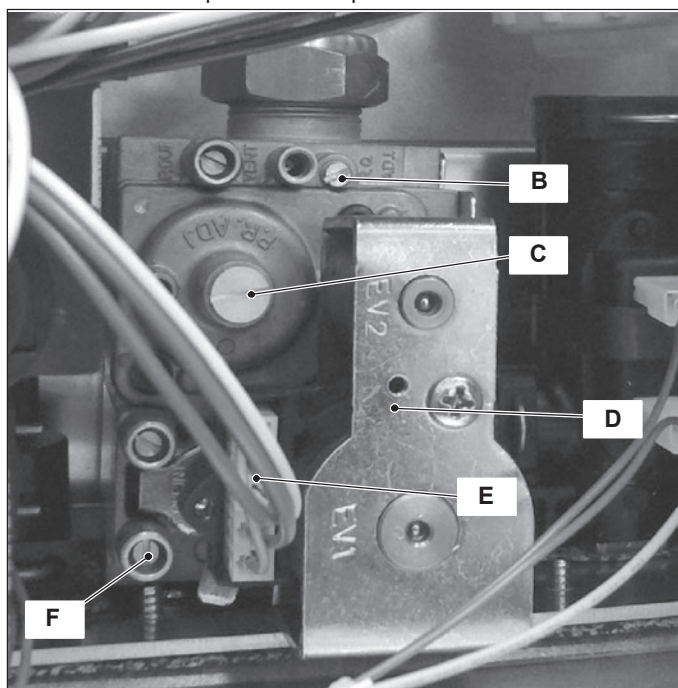
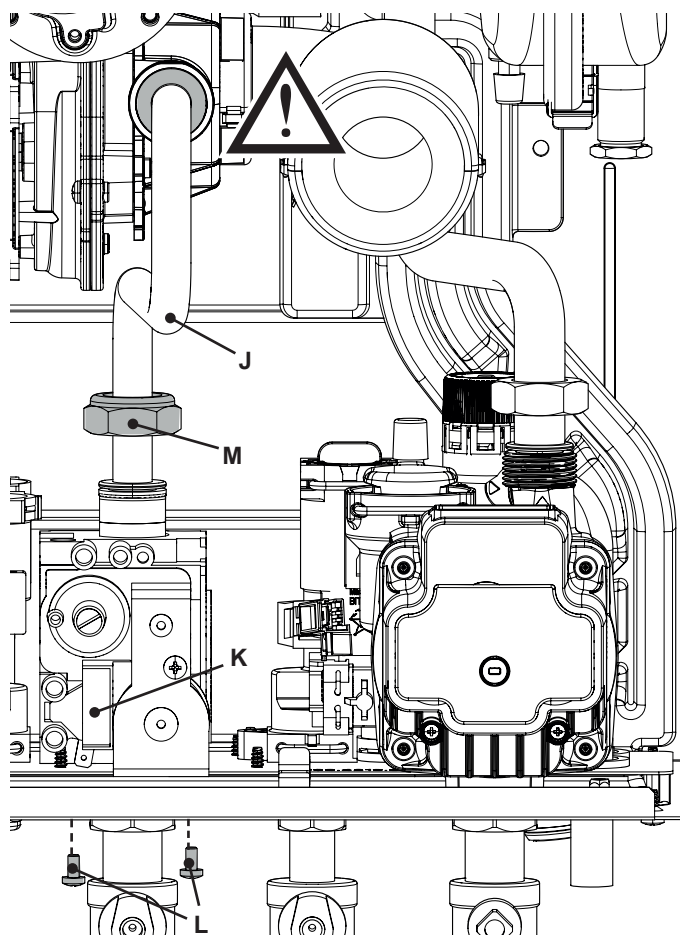

Figure 11.2
Figure 11.12
(Figure 11.2)
- 3 Loosen the internal screw on the Inlet Pressure Test Point "F" (Figure 11.2) of the Gas valve and connect a pressure gauge using a suitable hose.
- 10 Disconnect the pressure gauge and close the Inlet Pressure Test Point "F" (Figure 11.2).
To adjust the CO₂ % value remove the brass plug by unscrewing it and rotate the Allen key screw Ø 4 mm ("C" - Figure 11.2) (by rotating it clockwise the CO₂ % increases).
To adjust the CO₂ % value rotate screw ("B" - Figure 11.2) (by rotating it clockwise the CO₂ % decreases).
- 27 After adjustment fit the protective brass plug ("C" - Figure 11.2).
- 2 Disconnect the electrical connector "E" (Figure 11.2).
- 2 Disconnect the connector "K" (Figure 11.12), see also connector "E" (Figure 11.2).
- 4 Unscrew the connector "M" (Figure 11.12) and remove the pipe "J".
- 5 Unscrew the screws "L" and remove the valve (Figure 11.12).